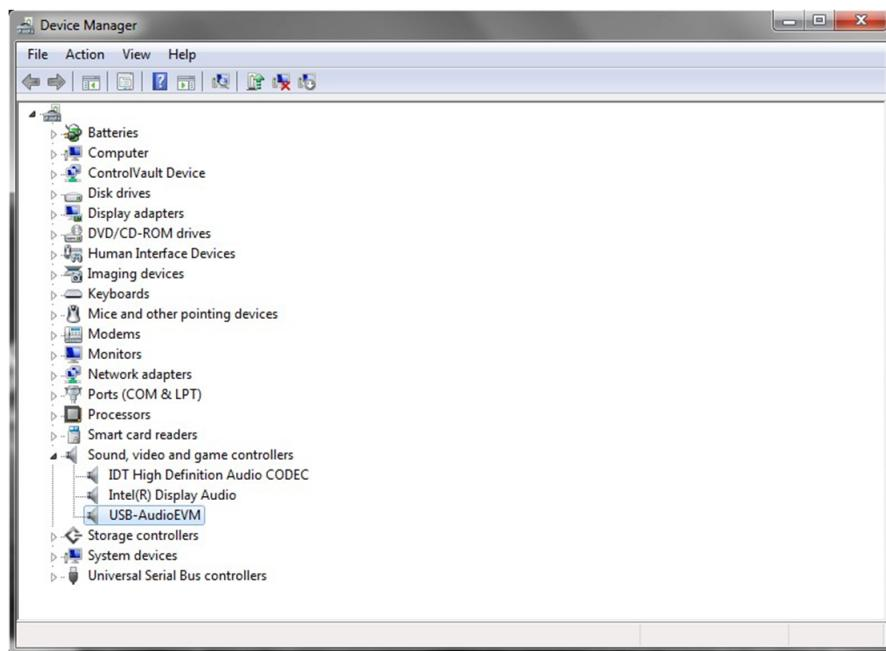

Figure 2. Device Manager
Upon power-on, the PPCMB uses USB audio input (default). The I₂S signals, LRCLK, SCLK, SDIN, and MCLK, come from the TAS1020B. foobar2000 or similar non-processing media source can be used to stream audio. The TAS1020B enumerates as the following device on a Microsoft® Windows® operating system (OS): USB audio (USB-miniEVM), Human Interface Devices, and USB Composite Device, see Figure 2.